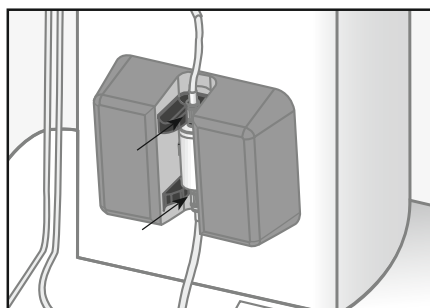

Figure 4-3.3: Separation column in separation column holder
1. Insert the separation column into the separation column holder as shown (see Figure 4-3.3).